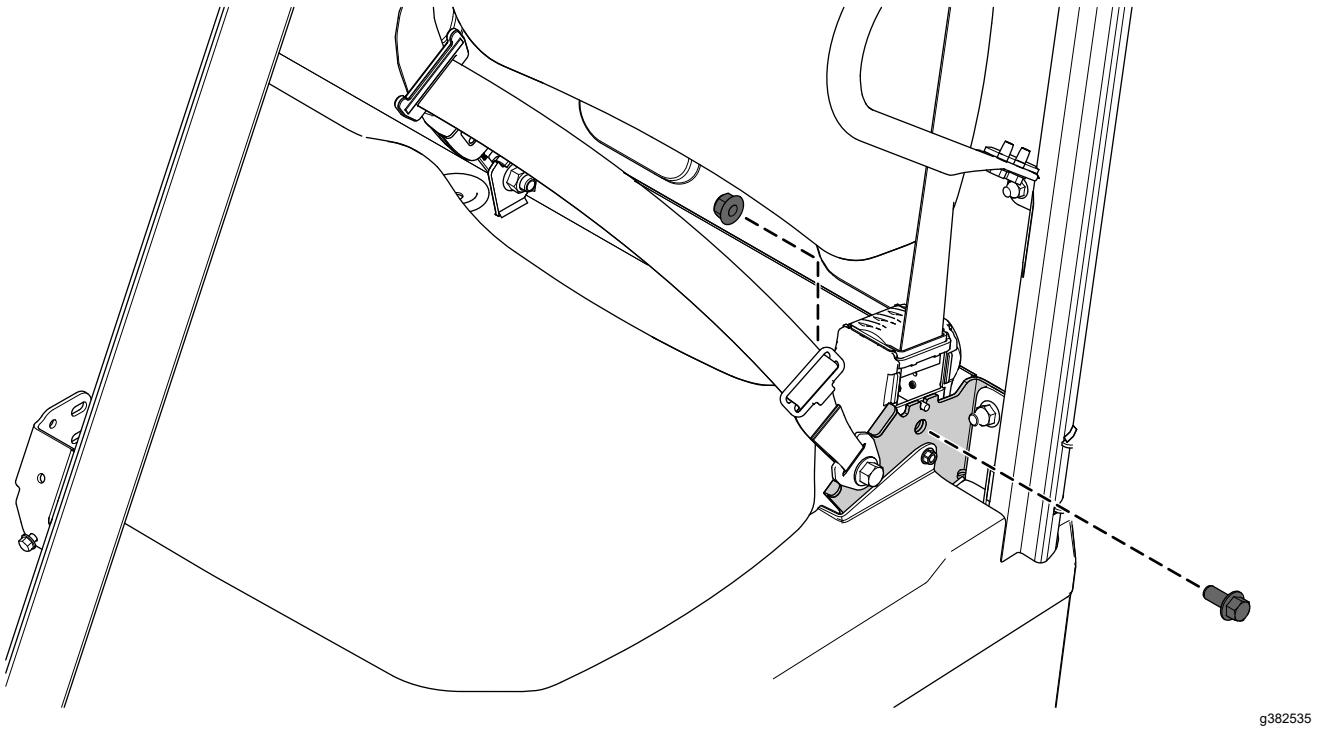

Figure 2
1. Remove the flange-head bolt (7/16 x 1 inch) and locknut (7/16 inch) securing the seat-belt retractor (Figure 2).